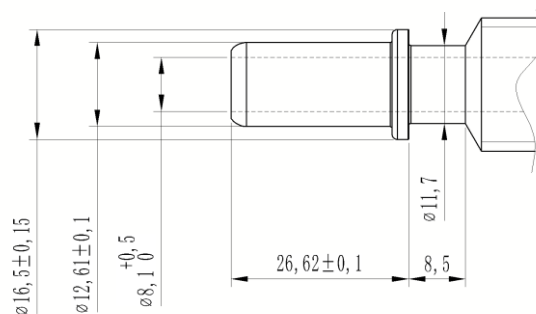

Fig.4-4 Size diagram of water nozzle
- (1) PCS extension water pipe interface (unit: mm), as shown in Fig. 4-4 below, the interface size conforms to SAEJ2044-2009 standard.